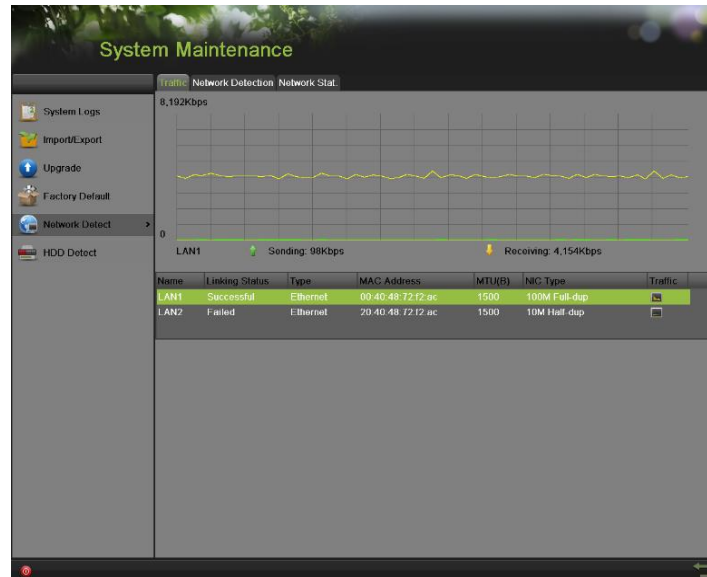

Figure 219 Traffic Detection
2. Select the Traffic tab and you can view the sending rate and receiving rate information on the interface, as shown in **Figure 219**. The traffic data is refreshed every 1 second.